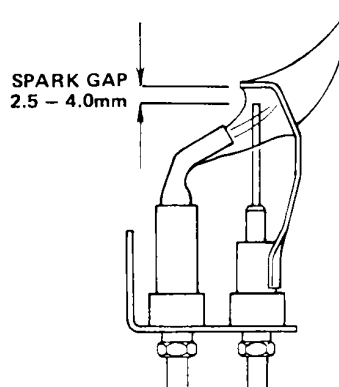

FIG. 29 PILOT BURNER SPARK GAP TOLERANCES
The pilot is pre-set and no adjustment is required. The pilot flame envelope should cover the electrode tip and spark earthing strip see FIG. 29. If the pilot flame is not as illustrated, remove and clean the pilot as described in the Servicing Instructions Section 4, PILOT BURNER, Page 22.
- H. Ensure that the spark gap is as illustrated in FIG. 29.
6. Replacement is the reverse of removal. On re-assembly ensure that the spark gap is as illustrated in FIG. 29.